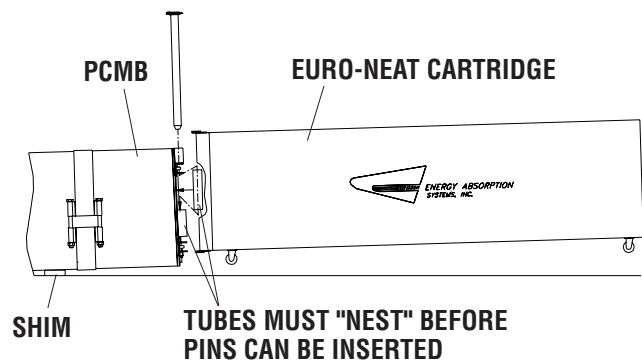

Figure 5
Step 5: Cartridge/Backup to Support Structure Attachment (see Figure 5)